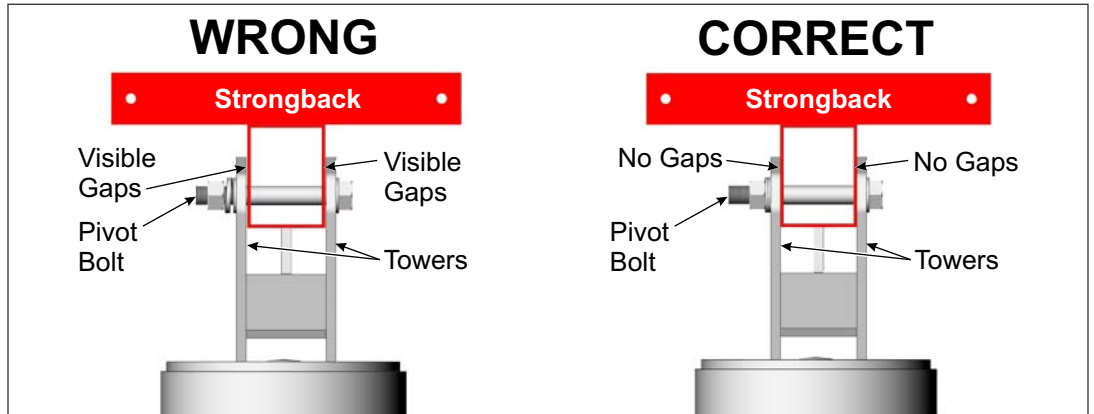

Figure 7-3: Tighten and Torque the Pivot Bolt
- C. Re-tighten the Pivot Bolt. After changing the tilt angle and tightening the Support Bar hardware, the Pivot Bolt must be re-tightened. The Pivot Bolt cannot be left loose - the Mounting Sleeve Vertical Towers must be firmly clamped to the sides of the Strongback eliminating any gaps between the Vertical Towers and the Strongback. **Torque to 200-250 ft.-lbs.** (See Figure 7-3)